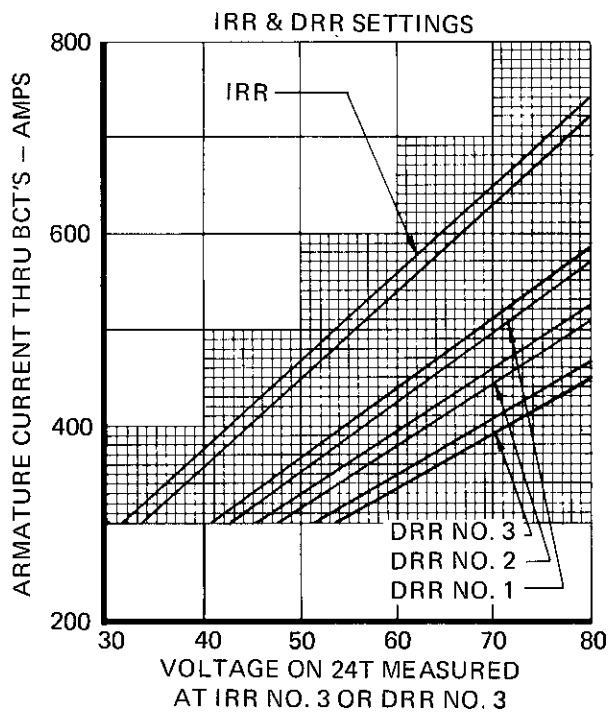

Fig. 1
The procedure amounts to first checking and resetting (if necessary) the dynamic brake potential line voltage. The second section is for calibrating LOR, IRR, and DRR relays. Figs. 1, 2, 3, and 4 must be used for references when calibrating the extended range system.
5. IRR Setting — Obtain 550 amps through BCT's and adjust RH9 for 60 ± 1 volt. Use the IRR curve in Fig. 1 as a reference. If range adjustment for RH9 is necessary adjust RE61A (GP30) or RE63A (GP35). Return throttle to idle when completed.
7. DRR No. 1 Setting — Obtain 440 amps through the BCT's and adjust RH8 to 61 ± 1 volts. Use DRR curve No. 1 Fig. 1 as a reference. If range adjustment for RH8 is necessary adjust RE60A (GP30) or RE62A (GP35).
9. DRR No. 2 Setting — Obtain 450 amps through the BCT's and adjust RE61B (GP30) or RE63B (GP35) to 70 ± 1 volt. Use DRR curve No. 2 in Fig. 1 for reference. Return throttle to idle when completed.
11. DRR No. 3 Setting — Obtain 400 amps through the BCT's and adjust RE60B (GP30) or RE62B (GP35) to 70 ± 1 volt. Use DRR curve No. 3 in Fig. 1 for reference. Return throttle to idle when complete.
11. Obtain 550 amps through the BCT's and adjust RH9 to 60 ± 1 volt. Use the IRR curve on Fig. 1 for reference. Return throttle to idle.
13. Obtain 440 amps through the BCT's and adjust RH13 for 61 ± 1 volts. Use the DRR - No. 1 curve in Fig. 1. Return throttle to idle.
15. Obtain 450 amps through the BCT's and adjust RH15 to 70 ± 1 volt. Use the DRR - No. 2 curve in Fig. 1 for reference. Return throttle to idle.
17. Obtain 400 amps through the BCT's and adjust RH14 to 70 ± 1 volt. Use the DRR - No. 3 curve in Fig. 1 for reference. Return throttle to idle.